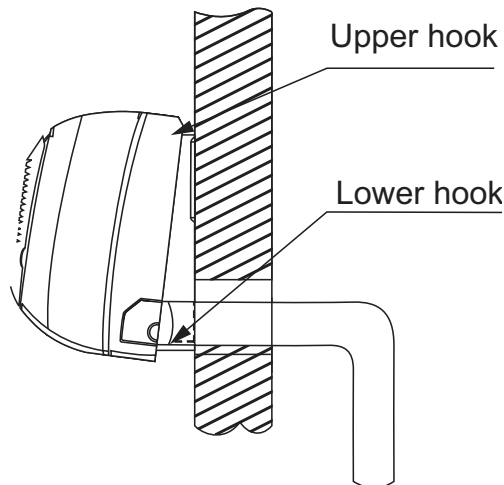

Fig. 23 — Indoor Unit Installation
7. Push the lower part of the indoor unit up on the wall, then move the indoor unit from side to side, up and down to ensure it is hooked securely (see Fig. 23).